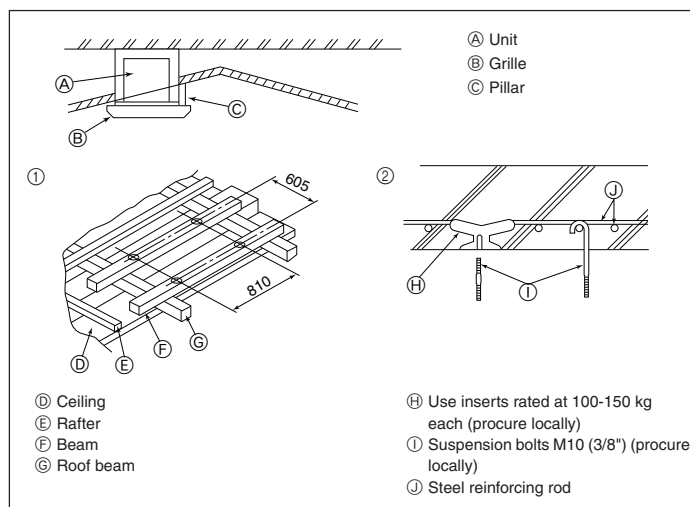

Fig. 2-4
2.4. Suspension structure (Give site of suspension strong structure) (Fig. 2-4)